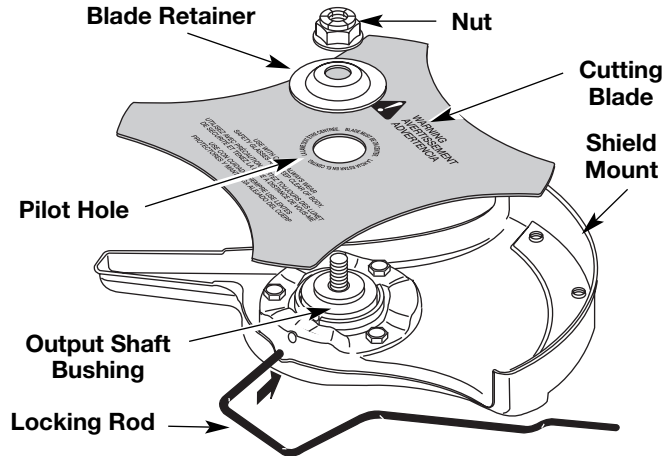

Fig. 10
- Place the cutting blade on the output shaft bushing (Fig. 10).